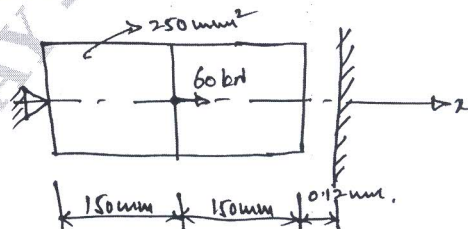

Fig.Q10(c)
c. For the continuum as shown in Fig.Q10(c). Determine the nodal displacement, reactions at the supports. Take  $E = 200\text{GPa}$ .